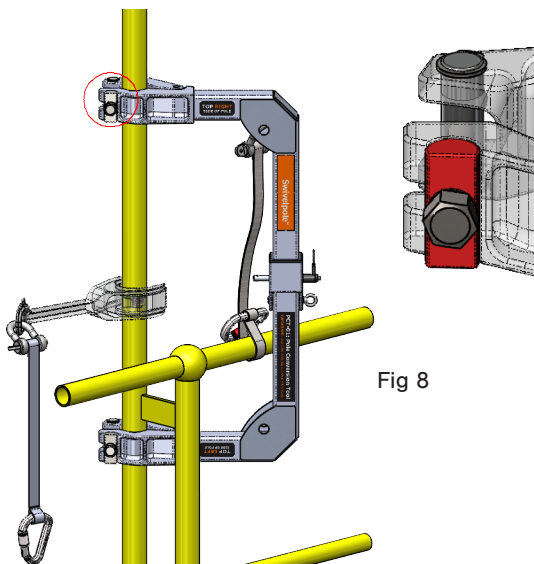

Fig 8
- Second person locks the clamp in place ensuring the half-moon locator is seated correctly into the PCT clamp. (Fig 8)